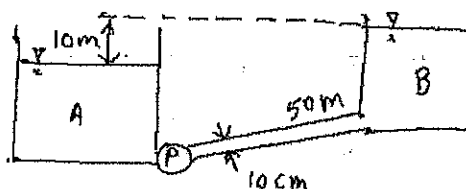

Figure 5
5) A centrifugal pump, P, is used to pump oil between two large open tanks, A and B as shown in Figure 5. The pipeline connecting the tanks is 50 m in length and has a diameter of 10 cm, as shown in the figure. The difference in the elevation of the free surfaces of the tanks is 10 m, as shown in the figure. The density of the oil is 800 kg/m^3 .